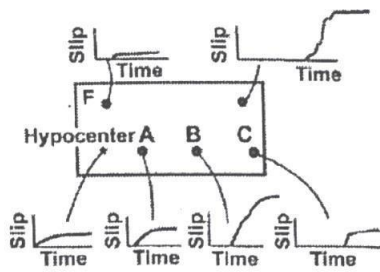

Fig. 5.12
This is a very Simple model in which simple uniform slip (dislocation), travels at a constant rupture velocity on a rectangular fault as shown in Fig. 5.12. The following steps are adopted to determine the total ground motion by using kinematic ground motion modeling.
1. Initially the slip functions are measured at various points on the hypothetical fault surface (F) with respect to the Hypocenter.
2. Graph is drawn by taking time along X-axis and slip along Y axis for the various points as shown in Fig. 5.12.